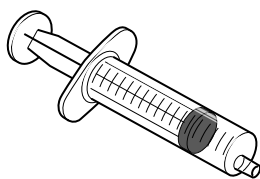

Fig. 2.1
- 1 The syringe should be of the type shown in Fig. 2.1. It should have a nozzle that fits securely into the flexible tube.